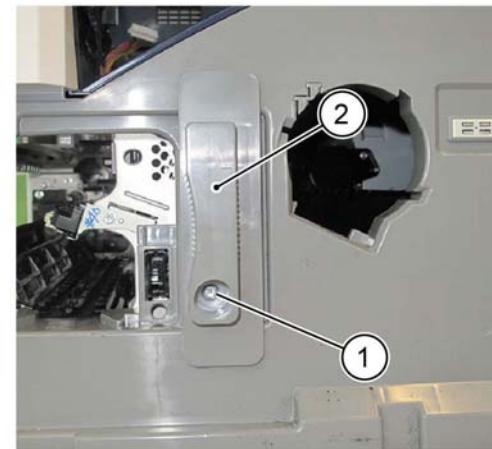

Figure 1 CRU handle and bearing removal
5. Remove the CRU handle and handle bearing as an assembly, Figure 1:
- a. Remove the screw (1).
- b. Remove the CRU handle and handle bearing (2).